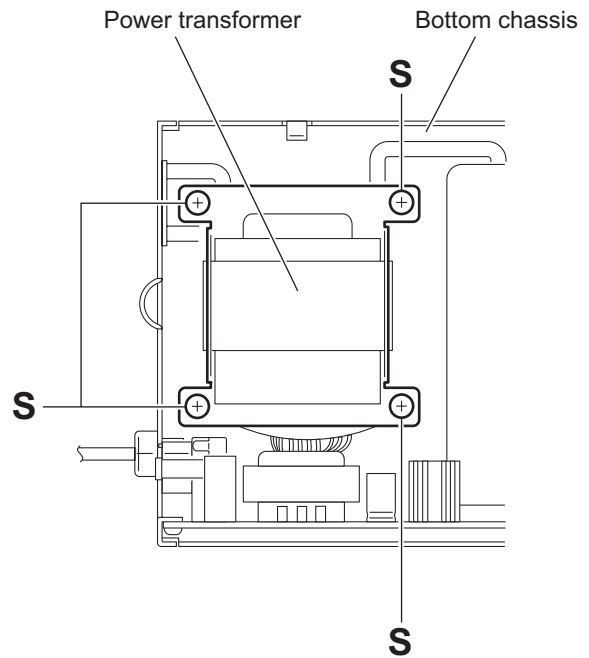

Fig.23
(2) From the top side of the main body, remove the four screws **S** attaching the power transformer to the bottom chassis. (See Fig.23.)